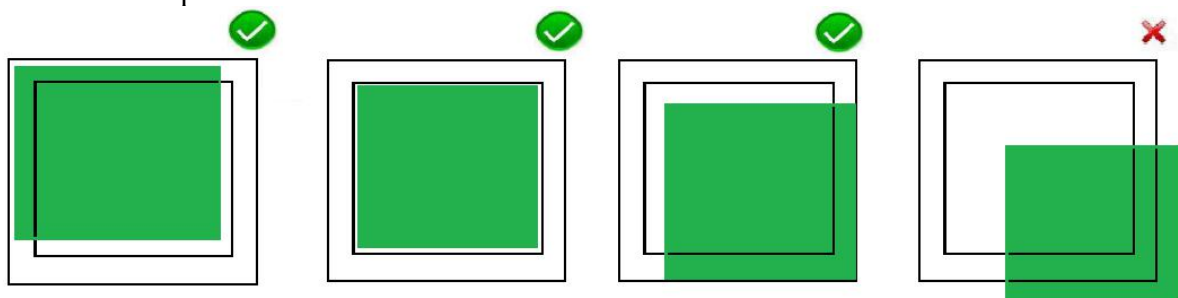

Figure 11: Nuts Deposition
- All Nuts to be placed inside DEPOSIT ZONES. Nuts which are **on or inside** the line will be considered valid depositions. Refer to Figure 11.